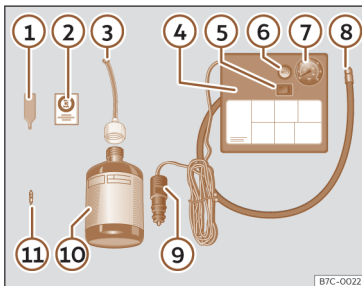

Fig. 31 Standard representation: anti-puncture kit contents.
The anti-puncture kit is located underneath the floor covering in the luggage compartment. It includes the following components >>> **Fig. 31**:
- Unscrew the tyre valve cap and insert. Use the >>> **Fig. 31** ① tool to remove the insert. Place it on a clean surface.
- Shake the tyre sealant bottle vigorously >>> **Fig. 31** ⑩.
- Screw the inflator tube >>> **Fig. 31** ③ into the sealant bottle. The bottle's seal will break automatically.
- Remove the lid from the filling tube >>> **Fig. 31** ③ and screw the open end of the tube into the tyre valve.
- Place the insert back into the tyre valve using the tool >>> **Fig. 31** ①.
- Screw the compressor tyre inflator tube >>> **Fig. 31** ⑧ into the tyre valve.
- Check that the air bleed screw is closed >>> **Fig. 31** ⑥.
- Insert the connector >>> **Fig. 31** ⑨ into the vehicle's 12-volt socket >>> **page 140**.
- Turn the air compressor on with the ON/OFF switch >>> **Fig. 31** ⑤.
- Attach the sticker >>> **Fig. 31** (2) to the instrument cluster, within the driver's visual field.
Screw the inflator tube >>> **Fig. 31** (5) again and check the pressure on the gauge (6).